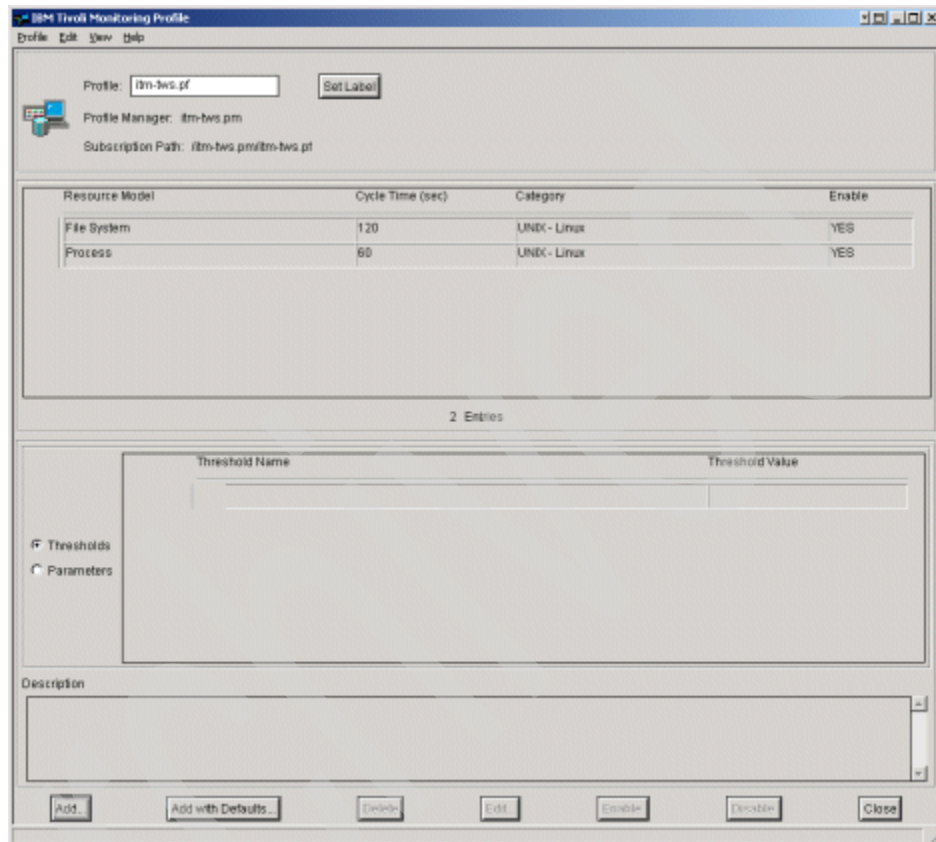

Figure 9-118 File System resource model added to itm-tws.pf ITM profile
8. Select **Add & Close**. You are returned to the Tivoli Monitoring Profile window for the itm-tws.pf profile, with the File System resource model added to the Resource Model list, as shown in Figure 9-118.